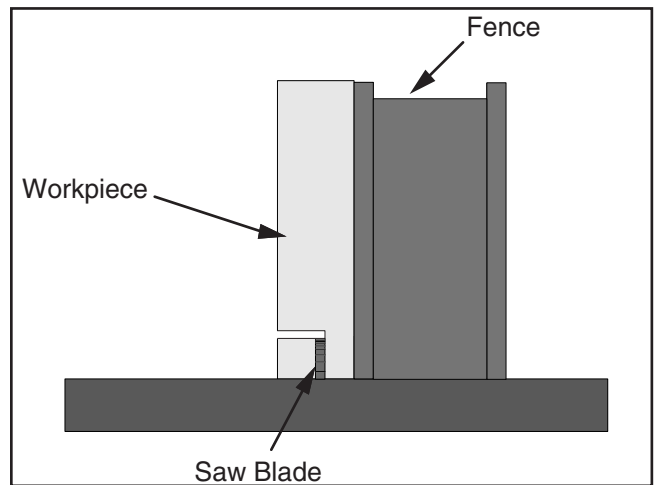

Figure 47. Second cut to create a rabbet.
8. Stand the workpiece on edge as shown in **Figure 47**.